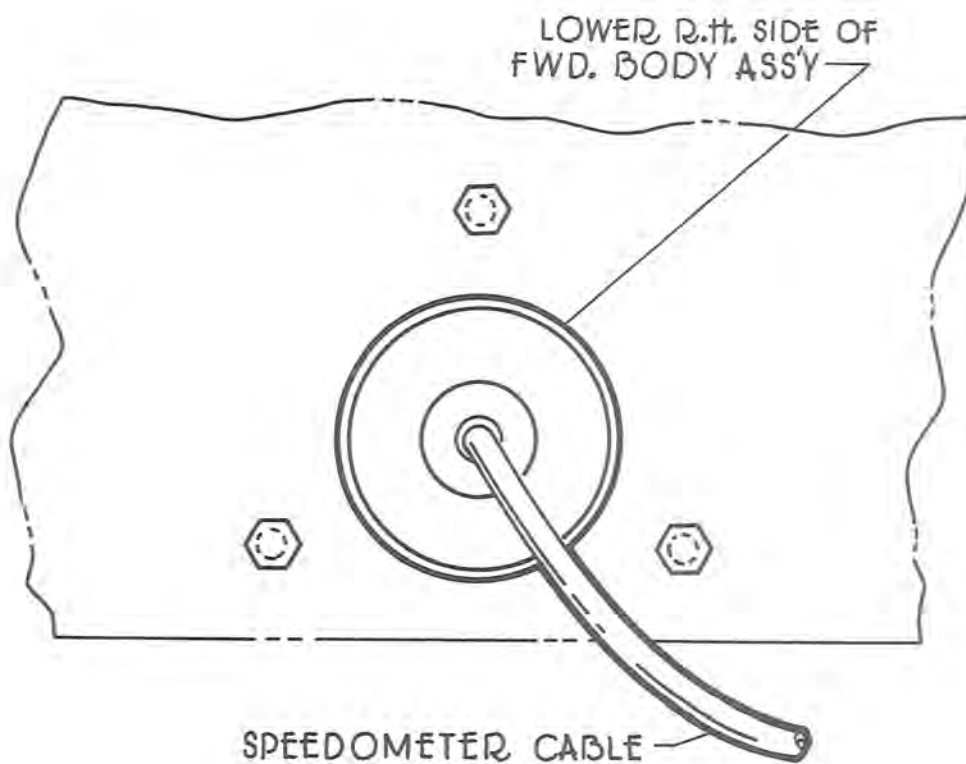

Figure 6-3. Speedometer Connection
3. Speedometer/Odometer - (See figure 6-3). After installing the Speedometer in the dash as shown in figure 6-1, remove the three bolts from the right side of the gearbox as shown in figure 6-3. Place the keyed end of the Speedometer cable into the gearbox output shaft, and replace the three bolts through the Speedometer cable cover.